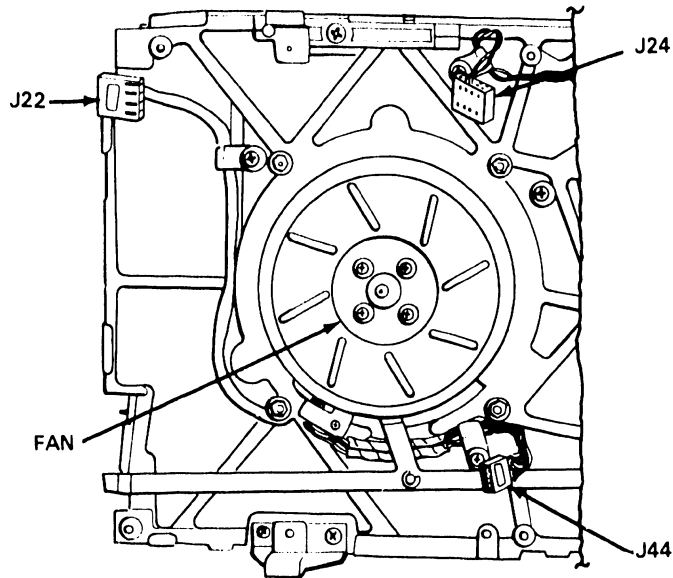

Figure 4-6 D22x7 Fan
6. Loosen the four screws that secure the fan (see Figure 4-6) and remove the fan by lifting it straight up.